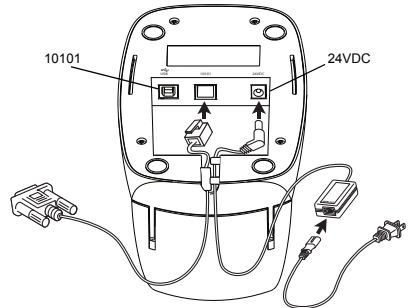

Figure 3
- 1 Plug the end of the serial cable with the RJ11 connector into the serial port on the bottom of the printer. See Figure 3.